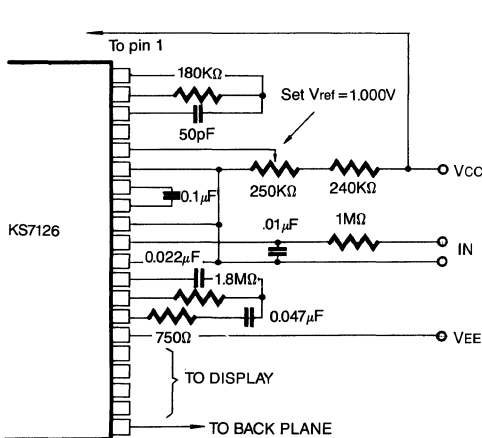

Figure 10: Recommended Values for 2.000V Full-Scale, Three Readings Per Second.
*Values depend on clock frequency. See figure 10, 12, 15.
*Values depend on clock frequency. See Figure 10, 12, 15